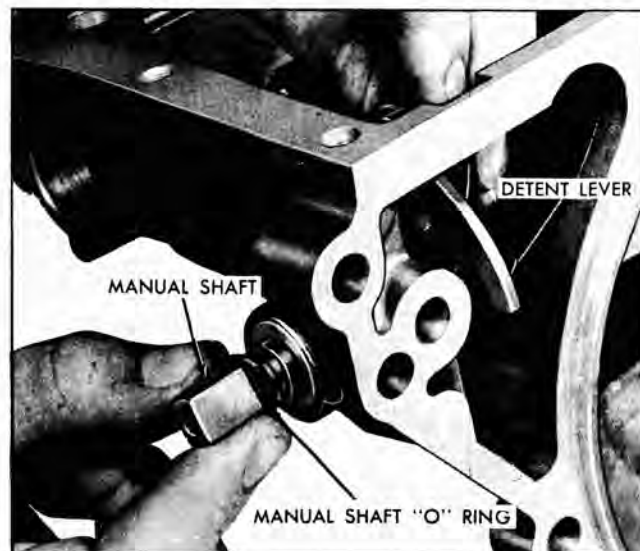

Fig. 102 Removing Manual Shaft Seal
2. Push the detent lever and manual shaft towards the outside of the rear bearing retainer to expose the "O" ring seal (Fig. 102). Remove seal from shaft.
6. Install the manual shaft "O" ring seal on the manual shaft (Fig. 102).